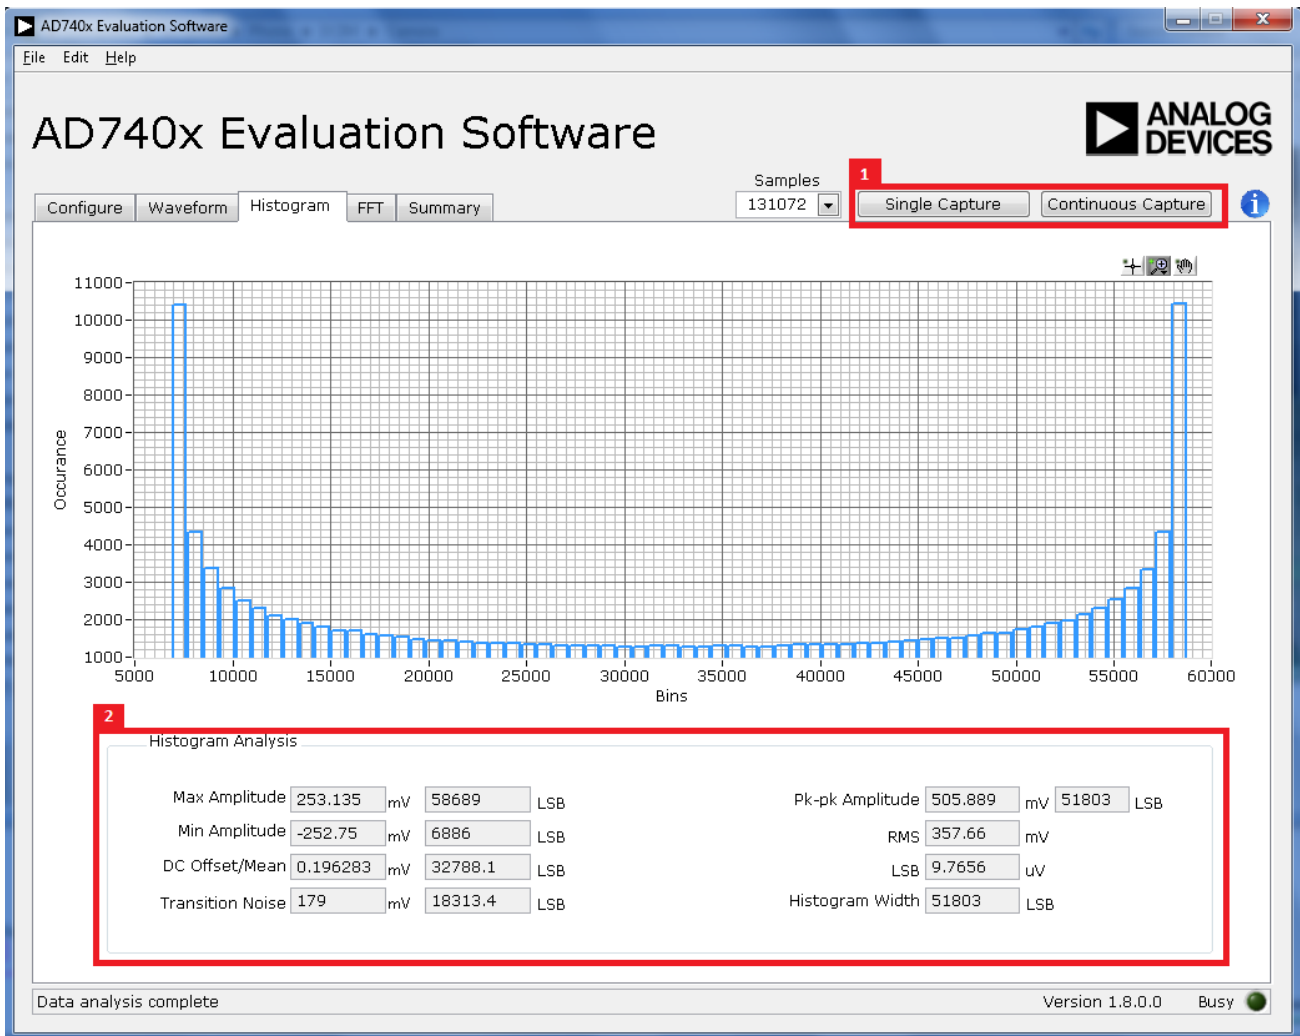

Figure 17. Histogram Capture Tab
The **Histogram** tab can be used to perform ac testing or, more commonly, dc testing. This tab shows the ADC code distribution of the input and computes the mean and standard deviation, which are displayed as **DC Offset/Mean** and **Transition Noise**, respectively, in the **Histogram Analysis** area (labeled 2 in Figure 17).
3. Click **Single Capture** or **Continuous Capture** (labeled 1 in Figure 17).
Raw data is then captured and passed to the PC for statistical computations, and various measured values are displayed in the **Histogram Analysis** area (labeled 2 in Figure 17).